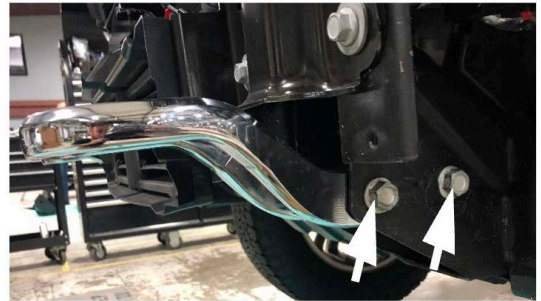

Figure 13.
12. If equipped, remove the factory tow hooks by using an 18mm socket wrench to unfasten the two (2) bolts in the frame. Figure 13.